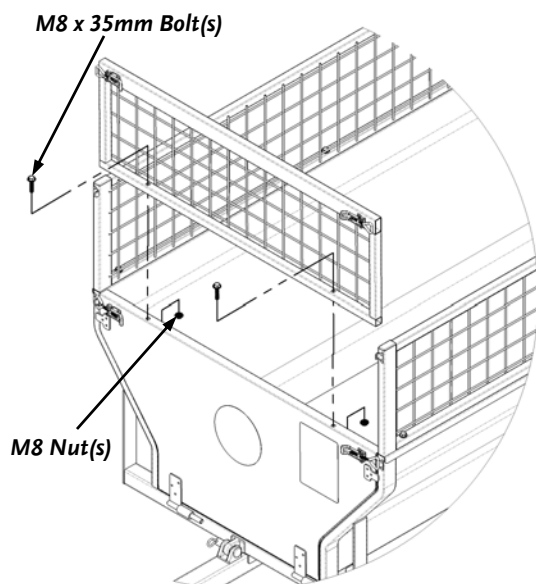

Figure 23
2. Install the Short Wall Extenders by inserting two M8 x 35mm Bolts through the Extender and the pre-drilled Holes in the sheet metal of the Tailgate (**Figure 23**). Secure with two M8 Lock Nuts under the Lip of the Tailgate. Adjust the Latches per step 17 on page 12. Repeat for the other end.